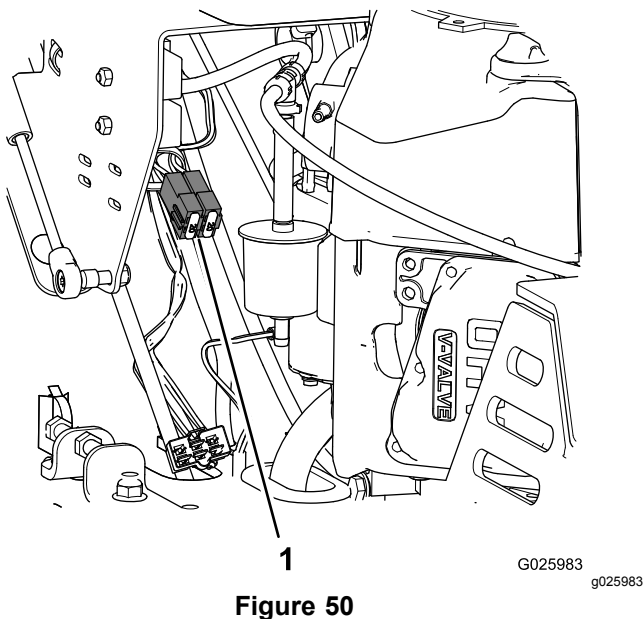

Figure 50
3. Pull the fuse from the socket of the fuse block (Figure 50).
4. Install a fuse of the same type and amperes into the socket of the fuse block (Figure 50).